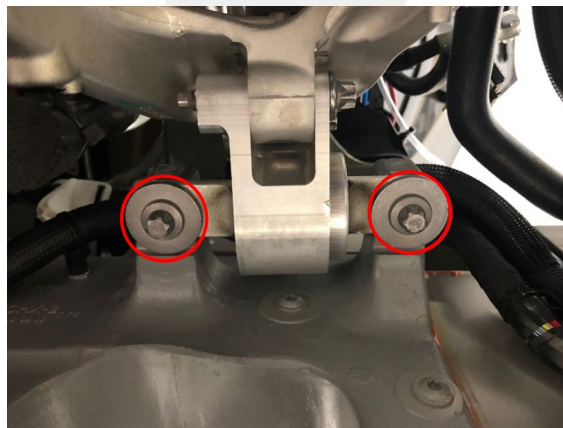

Figure 7
- b. Loosen, but do not remove, the bolts that attach the front drive unit clevis to the body (Figure 7).
- d. Torque the bolts that attach the clevis to the body (torque 65 Nm) (Figure 7).